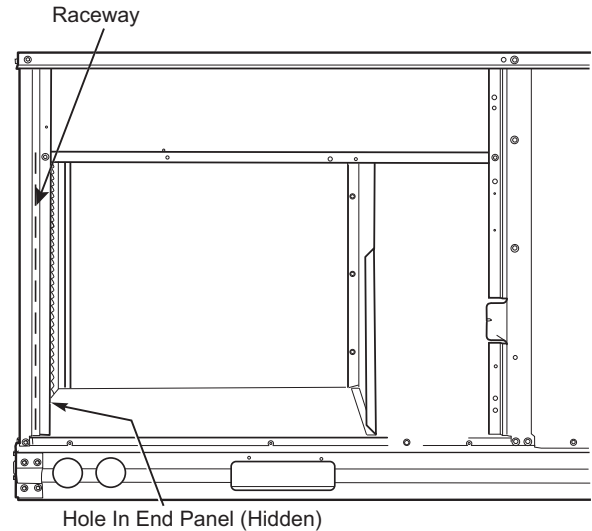

Fig. 35 — Field Control Wiring Raceway
Pass the thermostat control wires through the hole provided in the corner post; then feed the wires through the raceway built into the corner post to the control box. Pull the wires over to the terminal strip on the upper-left corner of the Unit Control Board. See Fig. 35.
2. Feed wires through the raceway built into the corner post (see Fig. 35) to the 24-v barrier located on the left side of the control box. The raceway provides the UL-required clearance between high-voltage and low-voltage wiring.